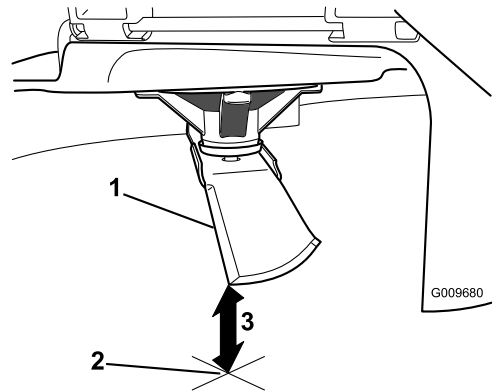

**Figure 47**
3. Measured distance between blade and the surface (A)
4. Rotate the same blade 180 degrees so that the opposing cutting edge is now in the same position (Figure 47).